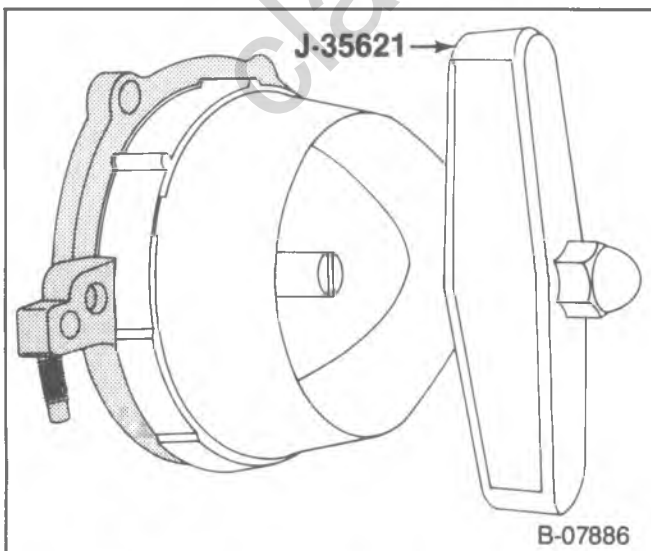

Figure 22—Installing the Rear Crankshaft Oil Seal
Install or Connect (Figure 22)
1. Rear crankshaft oil seal (figure 22).